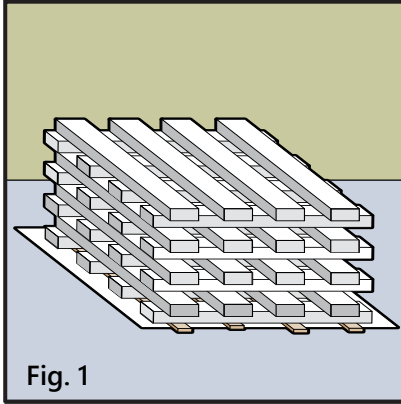

Fig. 1
- Stack boxes no more than eight cartons high in areas to receive new flooring. Elevate stack using 2 x 4's as illustrated in Fig. 1 above.